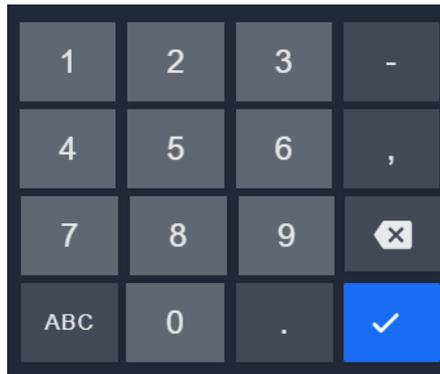

Fig. 1.25
2. Tap the PIN field and enter your four-digit PIN using the pop-up keypad (Fig 1.25).